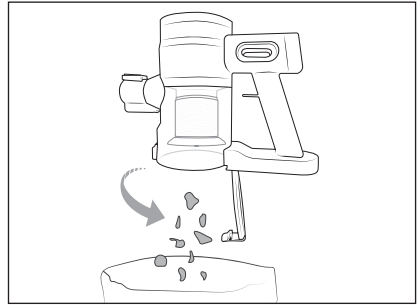

Fig. 10
- 1) Remove the telescopic suction tube **16** if necessary. Hold the dust container **2** in a waste bin and press the dust container lid release button **4**. The dust container lid **3** opens and the contents are emptied into the waste bin (see Fig. 10).